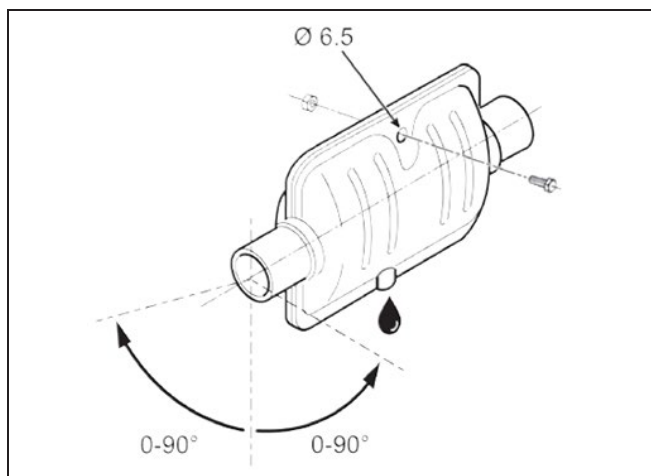

Fig. 19 Permissible installation position of exhaust silencer
- ▶ Ensure the correct installation position of the exhaust silencer (horizontal, $\pm 90^\circ$). See Fig. 19.